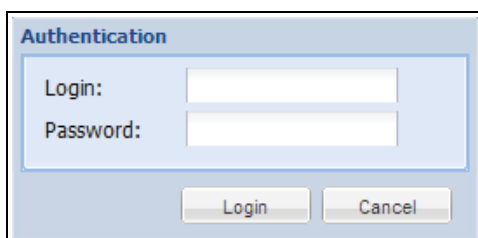

Figure 88. Login Authentication
3. Enter a valid user name and password in the Authentication dialog box (see Figure 88). Click **Login** to continue or **Cancel** to exit.